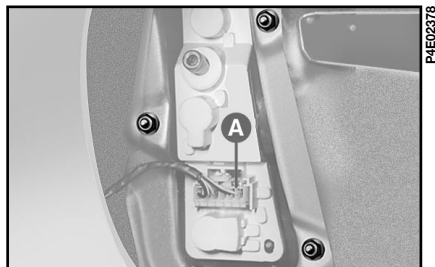

fig. 22
2) Remove the electrical connector **A-fig. 22**.